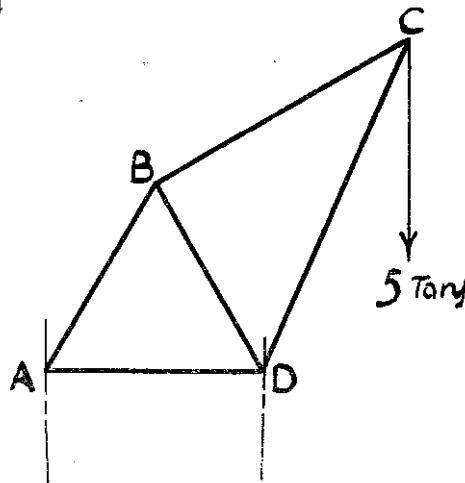

FIGURE 5
9. Figure 5 shows a simple pin-jointed crane which is supported by vertical reactions at A and D. The lengths of the members are:  $AB = BD = AD = 9$  ft,  $BC = 12$  ft and  $CD = 15$  ft. The cross-sections of the members are such that the stresses in all tension members are  $8 \text{ tonf/in}^2$  and in all compression members  $6 \text{ tonf/in}^2$ . Determine the vertical deflection of the joint C.  $E = 13000 \text{ tonf/in}^2$ .